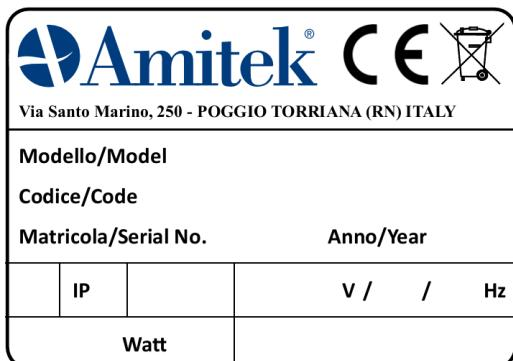

Fig.1
Read carefully the instructions given in this booklet. Before connecting the appliance, make sure that the data shown on the technical plate (Fig.1), corresponds with that of the mains power supply. Before carrying out any operation, insulate the appliance from the mains power supply. The installation must be carried out by professionally trained personnel in accordance with the instructions of the manufacturer and current regulations.
- The identifying and technical plate is fixed to the back of the appliance (Fig.1).